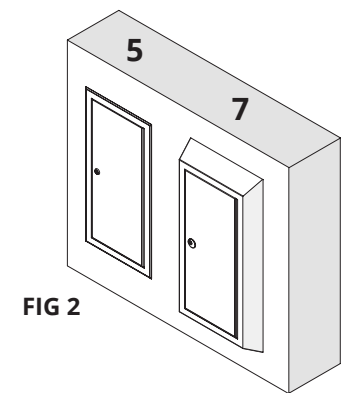

FIG 2
RECESSED (5) AND SEMI-RECESSED (7) CABINETS (FIG 2):